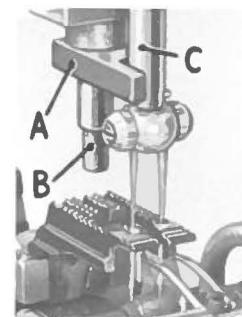
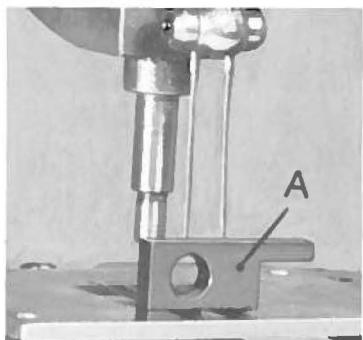
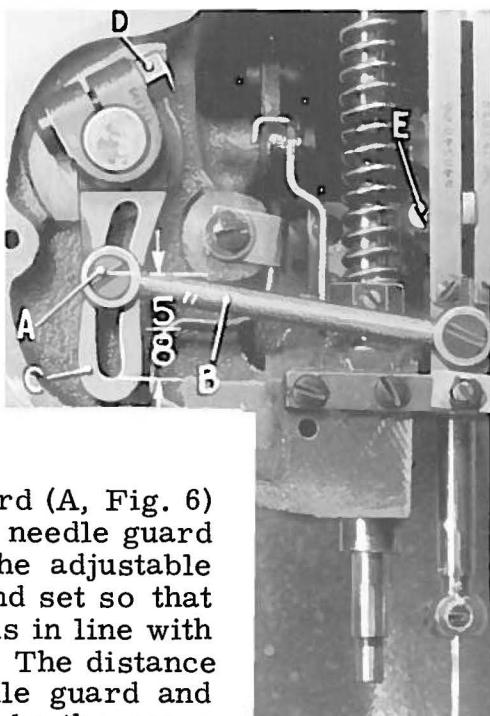
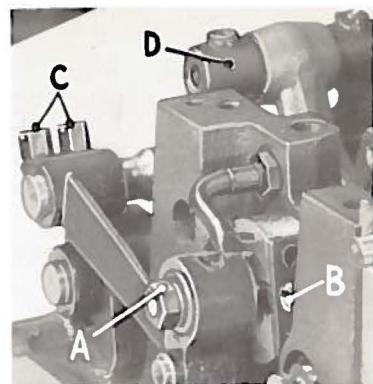

Fig. 3
Fig. 5
Fig. 4
Fig. 13
To establish the correct location of the needle bar when the needle bar is at the bottom of its travel use gauge No. 21227 BT (A, Fig. 3). Loosen nut on needle feed
drive lever (D, Fig. 4). Place gauge 21227 BT on presser bar (B, Fig. 3) with part number up. Rotate gauge in a counterclockwise direction so the shortest surface slips between the presser bar (B) and the needle bar (C) and the longest surface stops against the needle bar. With the needle bar at the bottom of its travel, hold needle bar firmly against the gauge and re-tighten nut (D, Fig. 4).
Using Type 134 GS needles, set the height of the needle bar so that the points of the needles are approximately $\frac{1}{2}$ inch above the top surface of the throat plate when the needles are at the high point of travel using gauge No. 21227 BT (A, Fig. 5) on its side. Loosen screw (E, Fig. 4) and move needle bar up or down as required and then tighten screw.
Set the needle travel at $9/64$ inch, which is approximately 7.2 stitches per inch. To set the needle travel, loosen screw (A, Fig. 4) and slide link (B) up or down, so the center line of screw (A) is located $5/8$ inch above the bottom of slot in needle feed drive lever (C, Fig. 4). Retighten screw (A). Check the $1/2$ inch needle travel above the top of the throat plate and readjust, if necessary.
Start operating on a piece of fabric. Set stitch to required length. To alter stitch length, loosen nut (A, Fig. 13) (it has a left hand thread) and turn screw (B) in head of main shaft until desired stitch length has been attained and tighten nut. Turning screw in a clockwise direction shortens the stitch and turning screw in a counterclockwise direction lengthens the stitch. The travel of the needle bar should be changed to correspond to the travel of the feed dog and this is accomplished by loosening screw (A, Fig. 4) and sliding link (B) up or down until the movement of the feed dog and needle bar are synchronized. Sliding the link upward shortens the travel of the needle bar and sliding it downward lengthens the travel of the needle bar.
Space the feed dog so there is a clearance of about $1/64$ inch on the sides and between front of needle hole and needle. This is accomplished by loosening the screws (C, Fig. 13) which clamp the feed rocker arm to the feed rocker (D) and moving the feed rocker forward or backward as needed. Tighten screws securely after proper setting has been attained. Should it be necessary to move the feed dog to the left or right, loosen screws (A, Fig. 10) which hold the feed rocker to the feed rocker shaft and move feed rocker to desired position and retighten screws. Make sure that the feed rocker arm does not bind after making this adjustment.
To set feed dog travel to correspond with needle travel, loosen nut (A, Fig. 13) (it has a left hand thread) and adjust screw (B) until movement of needle and feed dog are synchronized. Turning screw in a clockwise direction shortens the travel of the feed dog, and turning screw counterclockwise will lengthen the travel. Re-tighten nut.